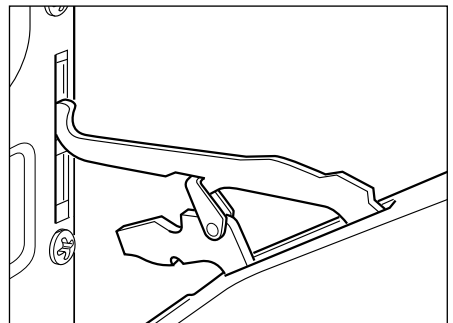

Fig.46d
- 4 Now pull the oven door forwards off the appliance. Release both hinge sections from the slots (Fig. 46d).